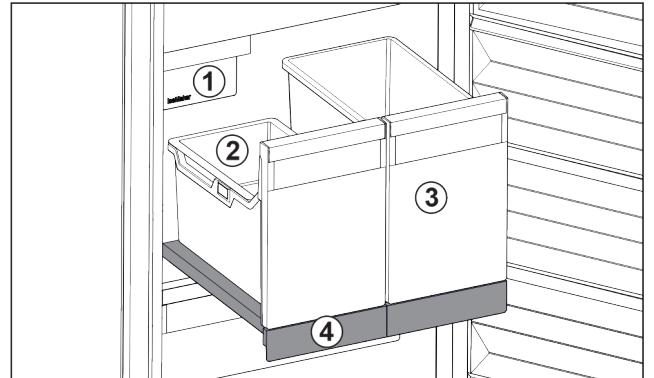

Fig. 103 Pull-out board with IceTower
- (1) IceMaker
- (2) Hang-on tray for ice cubes
- (3) Container for pizza or alcoholic beverages, for example
- (4) Pull-out board
There are two high (IceTower) containers on the pull-out board. Ice cubes from the IceMaker are collected and stored in the Fig. 103 (2) container. The container Fig. 103 (3) is suitable for storing tall foodstuffs or beverages such as pizzas or alcoholic drinks.